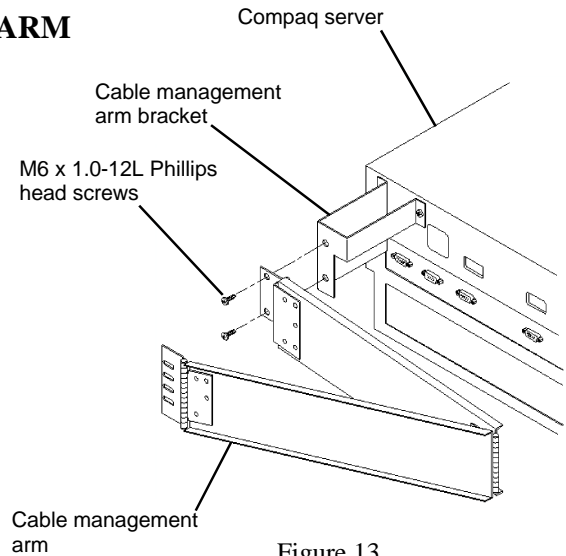

Figure 13
1. After you have installed the Compaq server, attach one end of the cable management arm (provided by Compaq) to the cable management arm bracket on the server using two M6 x 1.00" phillips head screws. See **Figure 13**.